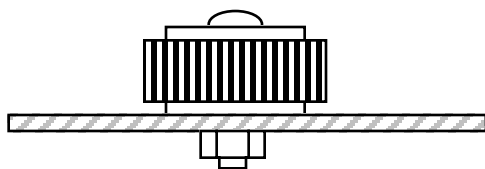

Figure 7-1
- Secure L1 loosely to the PC board as indicated by its component outline, near J6. As shown in Figure 7-1, use *two* nylon washers, a 1/2" (12 mm) nylon screw, and nylon 4-40 nut.